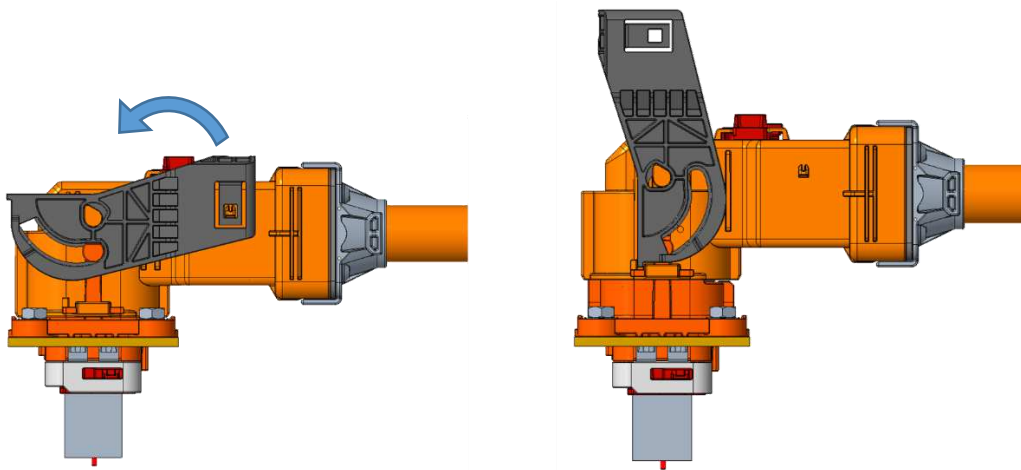

Figure 23: Lever from Close to Open
2. Rotate the lever away from the connector body until it is completely in the open position as shown in Figure 23.